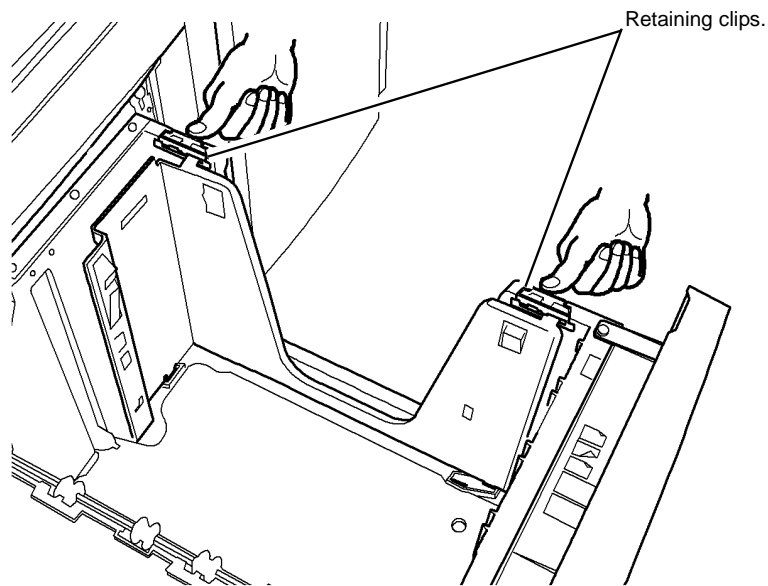

Figure 1 Remove the paper guide
2. Push in the retaining clips and remove the paper tray guide, PL 7.15 Item 20, Figure 1.